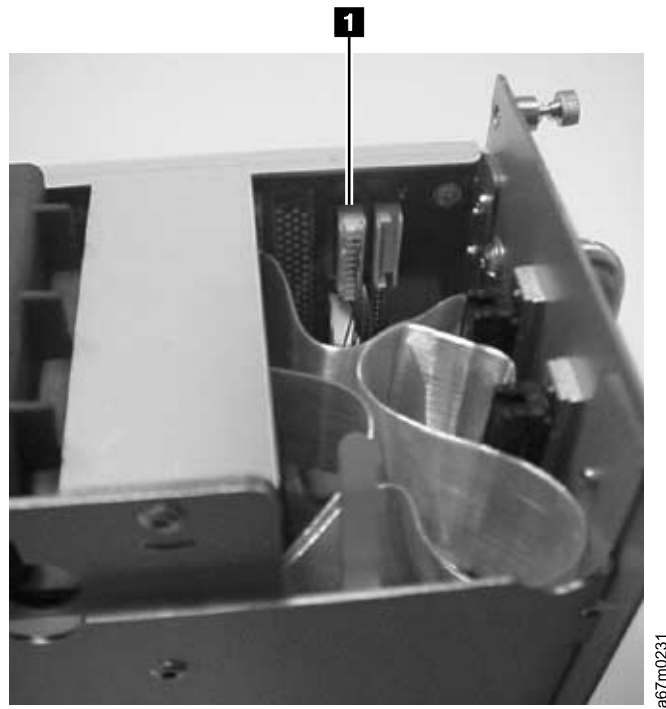

Figure 103. Unplugging the 422 Cable
2. Unplug the RS422 cable from the rear of the drive sled. See **1** in Figure 103.